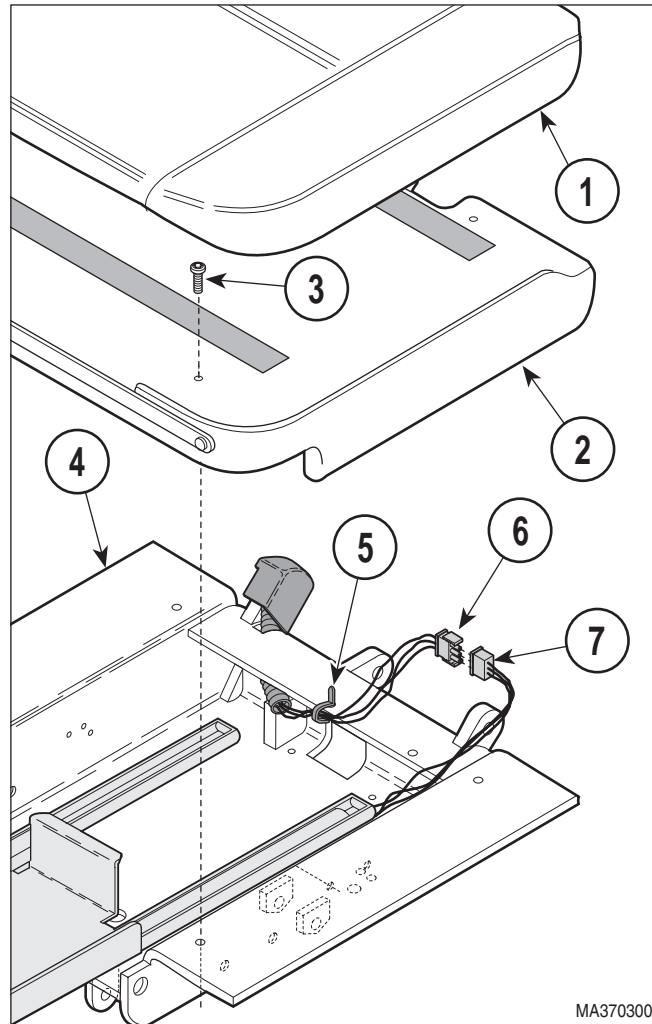
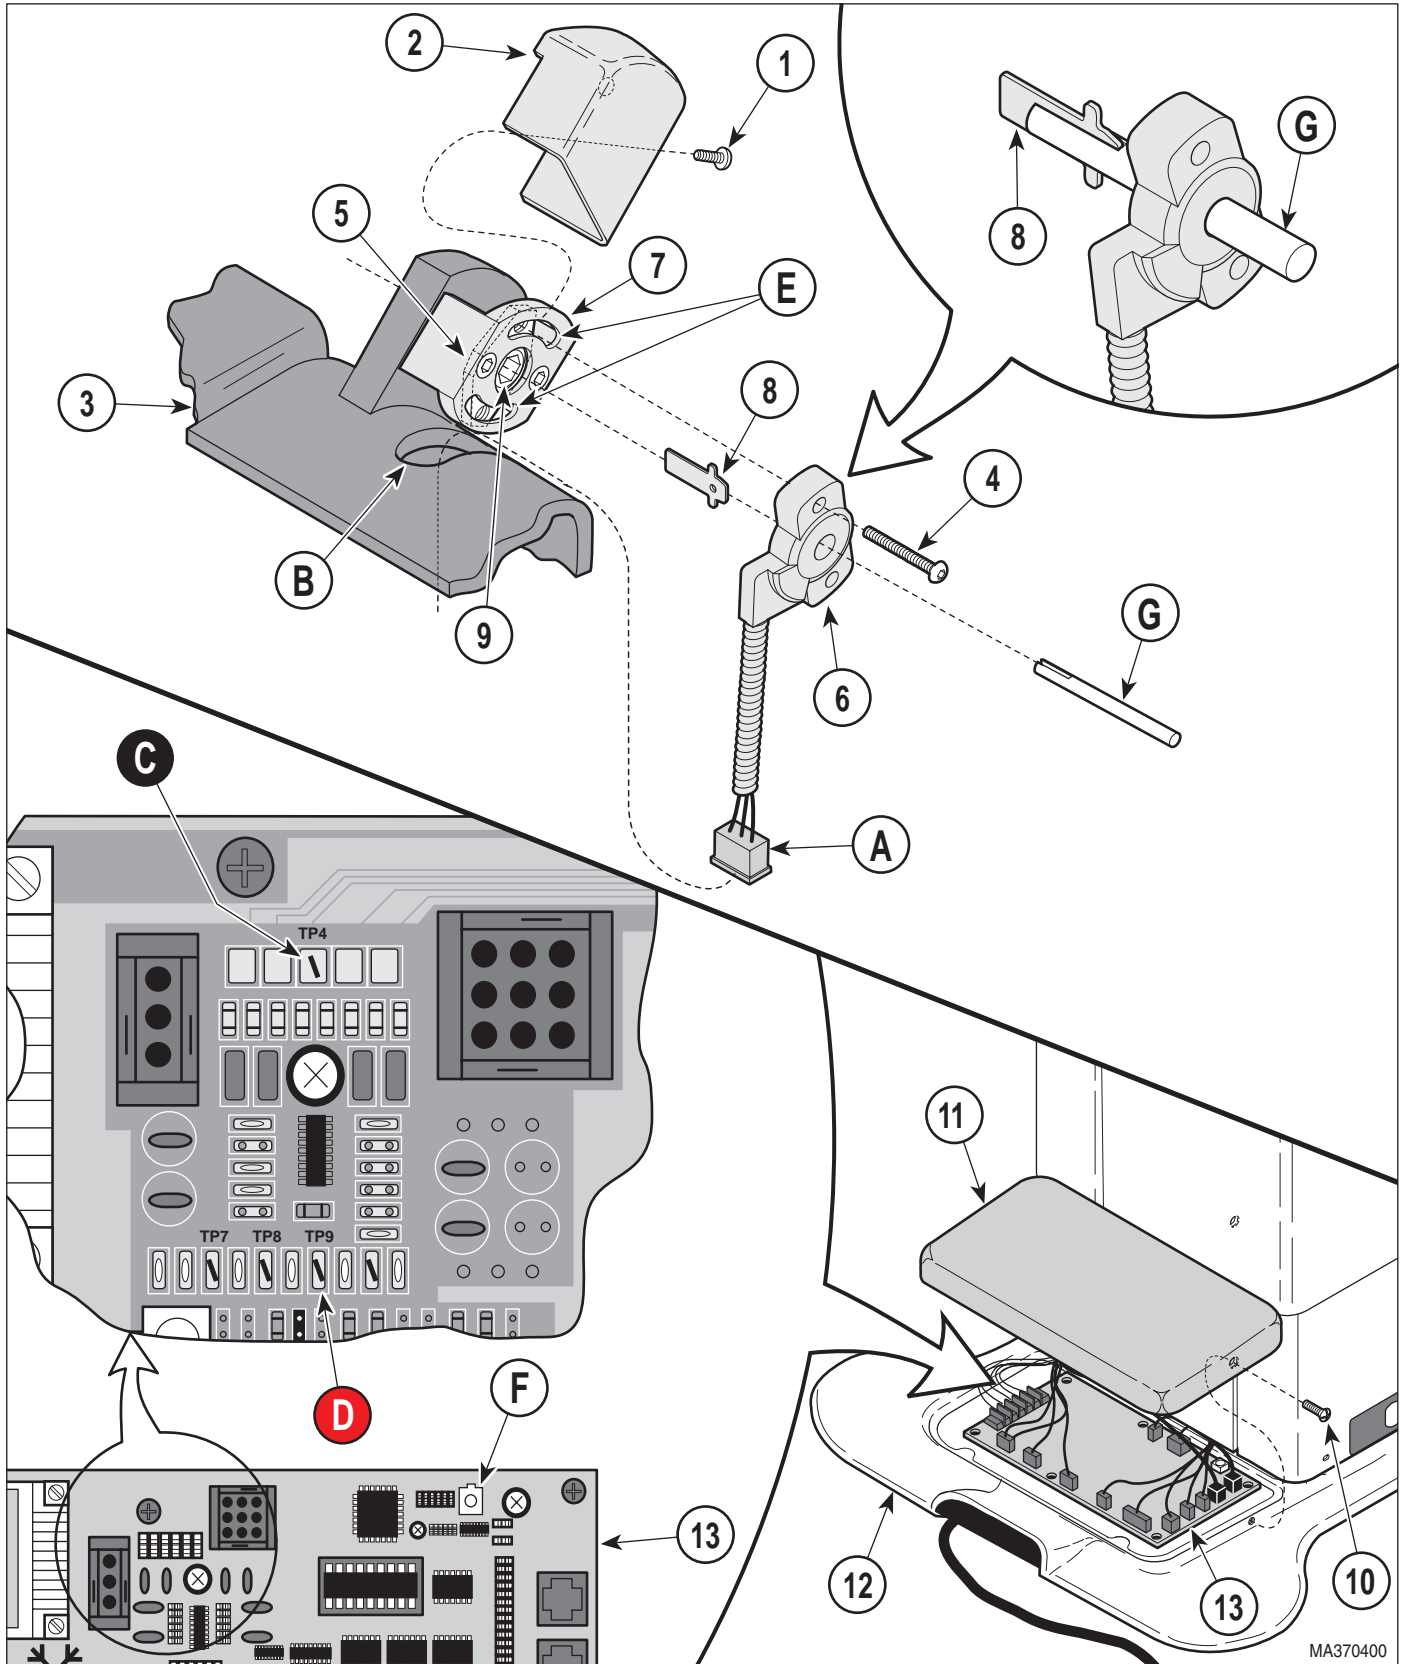

Figure 4-53. Back Sensor Harness Disconnection / Connection
Figure 4-54. Back Position Sensor Removal / Installation / Adjustment
- (1) Raise BACK UP function all the way up.
- (2) Unplug table power cord from outlet receptacle.
- (3) Remove upholstered seat (1, Figure 4-53) from seat board (2).
- (4) Remove four screws (3) and seat board (2) from seat weldment (4).
- (5) Cut cable tie (5) securing back sensor harness (6) to seat weldment (4).
- (6) Disconnect back sensor harness (6) from harness (7).
- (7) Remove one screw (1, Figure 4-54) and back sensor cover (2) from seat weldment (3).
- (8) Using a T15 torx wrench, remove two screws (4), backing plate (5), and back position sensor (6) from position sensor mount (7).
- (9) Pull back sensor harness (A) out of slot (B).
- (10) Remove 5/16" hex drive (8) from head of screw (9).
- (1) Remove two screws (10, Figure 4-54) and PC board cover (11) from base casting (12).
- (2) Connect negative (black) lead of multimeter to TP4 (C, Figure 4-54) and positive (red) lead of multimeter to TP9 (D) of PC control board (13).
- (3) Set multimeter to VDC setting. Then set the voltage range of the multimeter to the 0-20 VDC range.
- (4) Feed back sensor harness (A) thru wire slot (B) in seat weldment (3).
- (5) Connect back sensor harness (6, Figure 4-53) to harness (7).
- (6) Secure back sensor harness (6) to seat weldment (4) with cable tie (5).
- (7) Coat threads of four screws (3) with removable threadlocking adhesive (Loctite 242).
- (8) Install seat board (2) on seat weldment (4) and secure with four screws (3).
- (9) Install upholstered seat (1) and seat board (2).
- (10) Plug table power cord into outlet receptacle.
- (11) Lower BACK DOWN function all the way down.
- (12) Slide sensor holder tool (G, Figure 4-54) thru the center hole of back position sensor (6).
- (13) Insert 5/16" hex drive (8) into slot of sensor holder tool (G).
- (14) Pull on holder sensor tool (G) until 5/16" hex drive (8) is engaged with back position sensor (6). Then, rotate sensor holder tool slightly to apply friction on 5/16" hex drive and prevent it from "popping" out as back position sensor is installed. The 5/16" hex drive is properly engaged when spring tension is felt as the sensor holder tool is rotated. Also, the multimeter should read approximately 0.5 to 0.7 VDC and the reading should change as the tool is rotated.
- (15) While applying slight rotational pressure and gentle back pressure on sensor holder tool (G) to keep 5/16" hex drive (8) in position, install back position sensor (6) on position sensor mount (7). Move back position sensor around as necessary while pushing back position sensor inward until it is fully seated.
- (16) Coat threads of two screws (4) with removable threadlocking adhesive (Loctite 242); then secure the back position sensor (6) on position sensor mount (7) with backing plate (5) and two screws (4). Tighten screws very lightly, so that the back position sensor may be rotated for adjustment, but do not let sensor pop out of mounting position.
- (17) Pull sensor holder tool (G) from back position sensor (6).
- (18) Rotate back position sensor (6) until multimeter reads approximately 0.50 VDC \pm 0.2 VDC; then tighten two screws (4) to secure back position sensor in place.
- (19) Raise BACK UP function all the way up (until it freewheels) while observing the multimeter reading; the reading should increase steadily during the table movement. If the voltage reading stops increasing before the actuator reaches its end of travel and freewheels, the back position sensor (6) has reached the dead spot at the end of its range. If this happens, return to step 18 and readjust the back position sensor as determined necessary to eliminate the dead spot.
- (20) Press BACK DOWN button for approximately 1/10 second and release (the minimum amount of time the button can be pressed and still have the table move slightly). Then, run BACK DOWN function all the way down and repeat step using the BACK UP button.